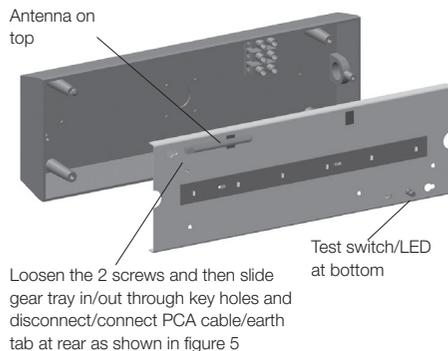

Figure 2
3. Remove the gear tray as shown in figure 2 and figure 5.
4. Remove the gear tray as shown in figure 2.
8. Verify that the battery is connected to the power pack or PCA. For Nexus LX product; connect the data cable to the green data connector or terminal block marked DATA. For Nexus RF product; ensure that the antenna is fitted to the gear tray. For more details refer to the data connections section. Re-install the gear tray as shown in figure 2 and figure 5.